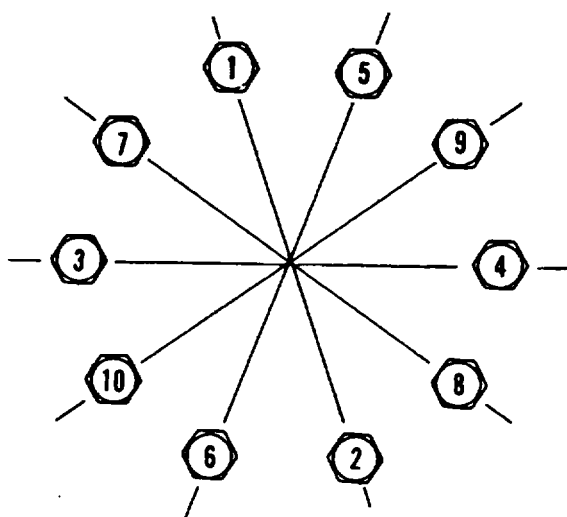

Figure 4-59. Tightening Order for Wheel Stud Nuts.
(3) *Installation.* Position inner wheel over studs on axle hub. Replace ten inner stud nuts, lower tire to ground, and tighten to 450-500 lb-ft using sequence in figure. Jack up axle and position outer wheel over inner stud nuts. Lower tire to ground, and using sequence in fig. 4-59. Tighten nuts to 450 to 500 lb-ft.